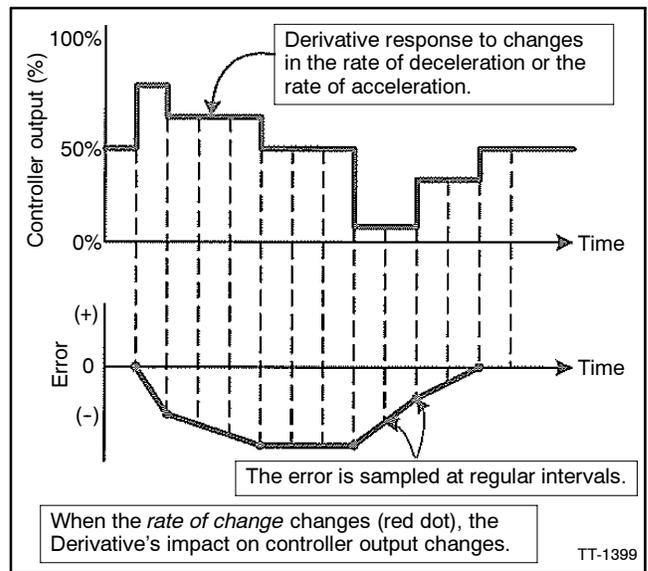

Figure 9-9 Derivative Value
7. **Derivative.** Enter the value from the Governor Parameter Summary. See Figure 9-9.